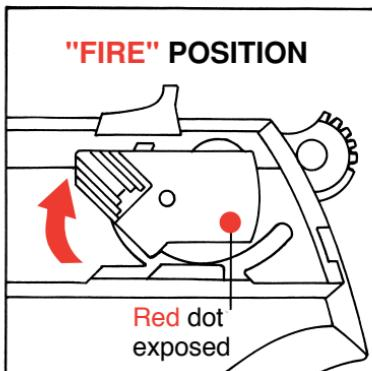

FIGURE 2
8. If the pistol is to be fired immediately, the manual safety can be rotated upward to its "fire" position. (See Figure 2, p. 11.) The firing pin is still blocked at all times by the internal firing pin block unless the trigger is pulled all the way to the rear.